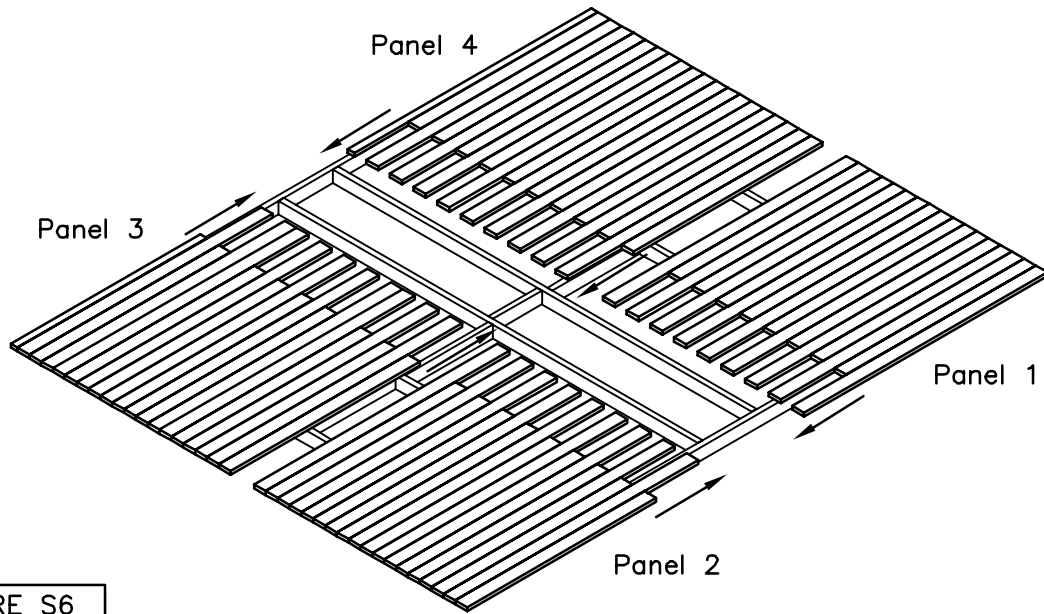

FIGURE S6
- Place the 4 deck panels on top of the floor joist system. Using 12 to 15-3" long screws fasten the deck panels down onto the floor joists. See Figure S6 on the next page.